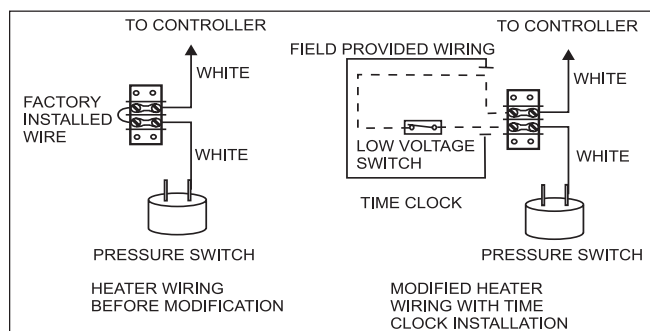

Figure 23. Typical Time Clock Wiring
5. Connect the low voltage wires from the time clock auxiliary switch to the two terminals. Use American Wire Gage (AWG) No. 14 gauge stranded copper wire with a temperature rating of 221°F (105°C) or greater (see Figure 23).